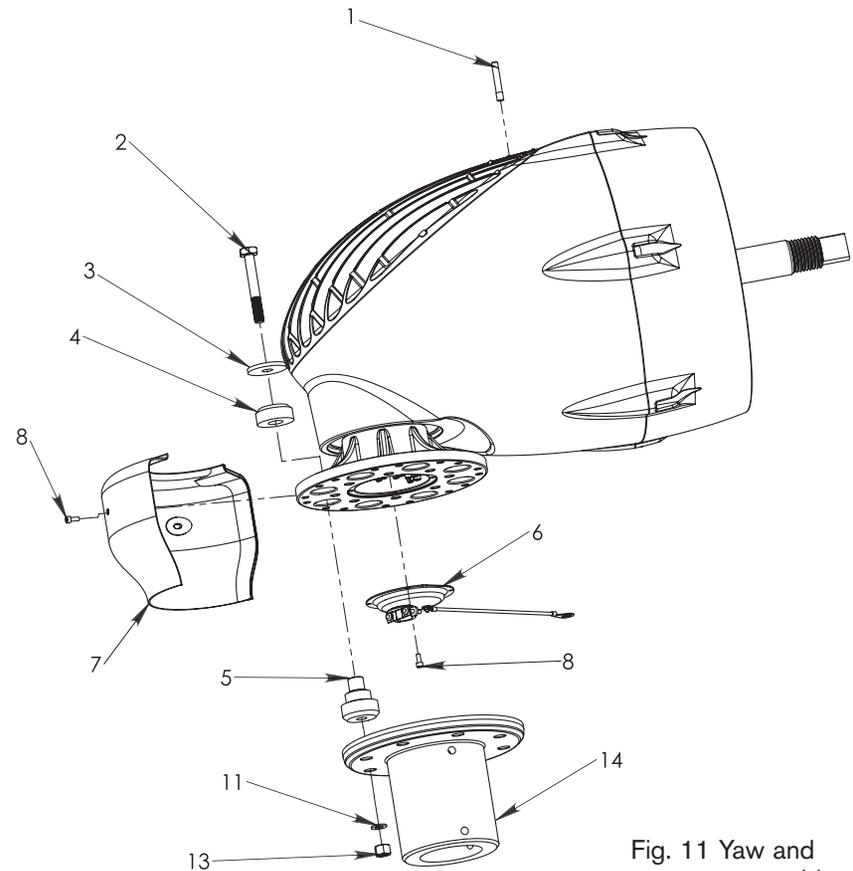

Fig. 11 Yaw and antenna assembly
- Install the vibration isolator halves (items 4 and 5) on the yaw as shown in **Fig. 11**. Note the orientation of the isolator halves is very important – install as shown.
- Insert the vibration isolator bolts and snubbing washers into the vibration isolators from “above” as shown in **Fig. 11**.
- Mount the yaw shield halves using four M5 socket head screws. Refer to **Fig. 11**.